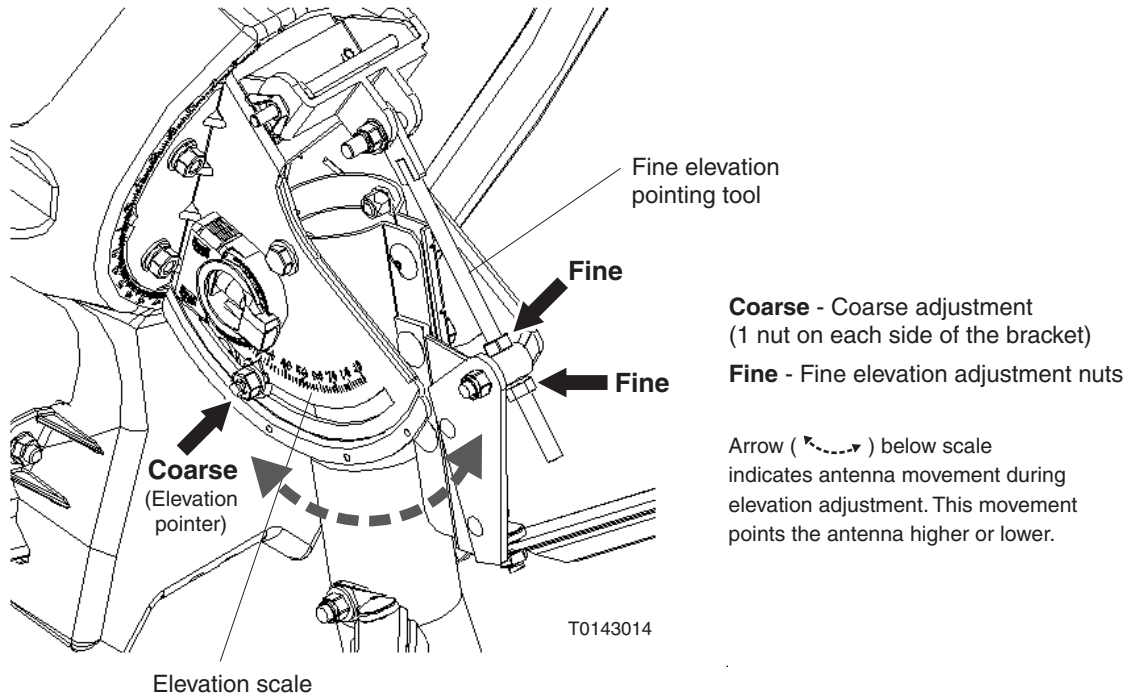

Figure 34: Elevation adjustments on the antenna
Figure 34 illustrates the mechanical elevation adjustments on the antenna.
1. Loosen the nut just below the elevation scale, and loosen the nut on the opposite side of the elevation bracket. (See Figures 34 and 35.)
1. While watching the signal strength display to ensure that the signal strength stays at maximum, adjust the elevation adjustment nuts on the pointing tool (Figure 34):